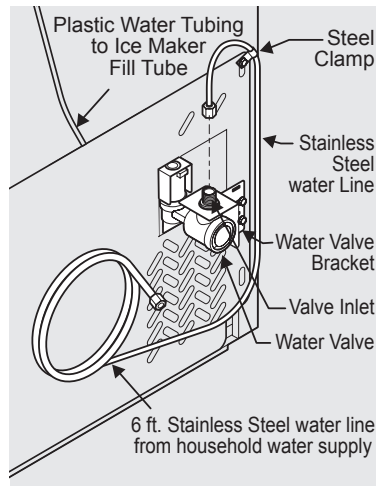

Figure 2
- If you use stainless steel tubing** - The nut and ferrule are already assembled on the tubing. Slide compression nut onto valve inlet and finger tighten compression nut onto valve. Tighten another half turn with a wrench; DO NOT overtighten. See Figure 2.